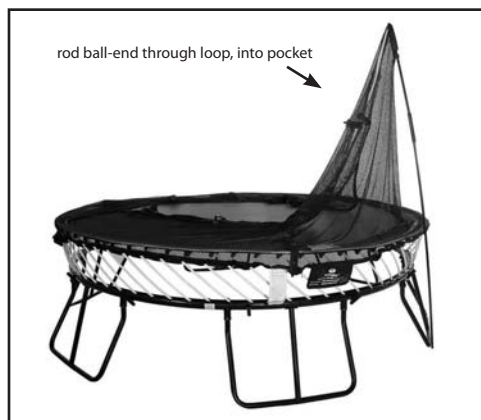

Figure 17: Inserting an enclosure rod into a pocket
* NOTE: Ensure the rod is pushed right to the end of the pocket. Unless you do this, the internal catch cannot prevent the rod from coming out during use (Figure 17).